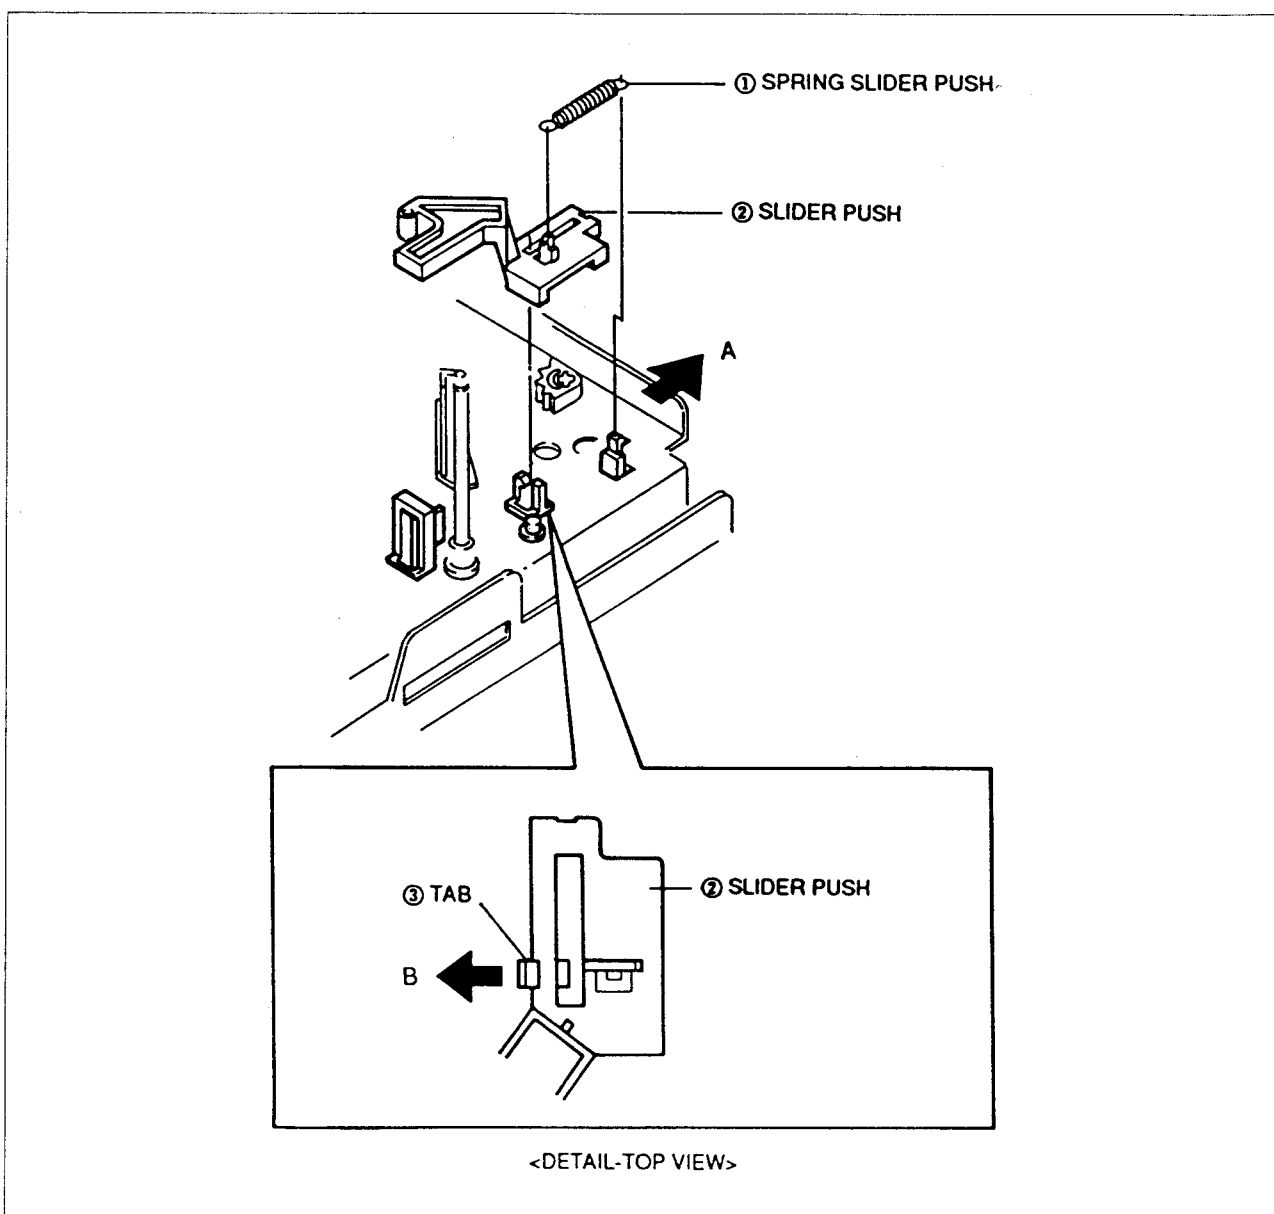

Fig. 4-51
2. Remove the slide 'S', 'T' from the gear loading 'L', 'R' assembly. Refer to Fig. 4-51.